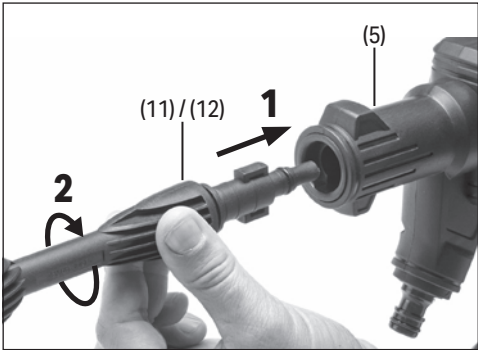

Fig. 3
7.1 Pressure Washer Assembly - Fig. 3.